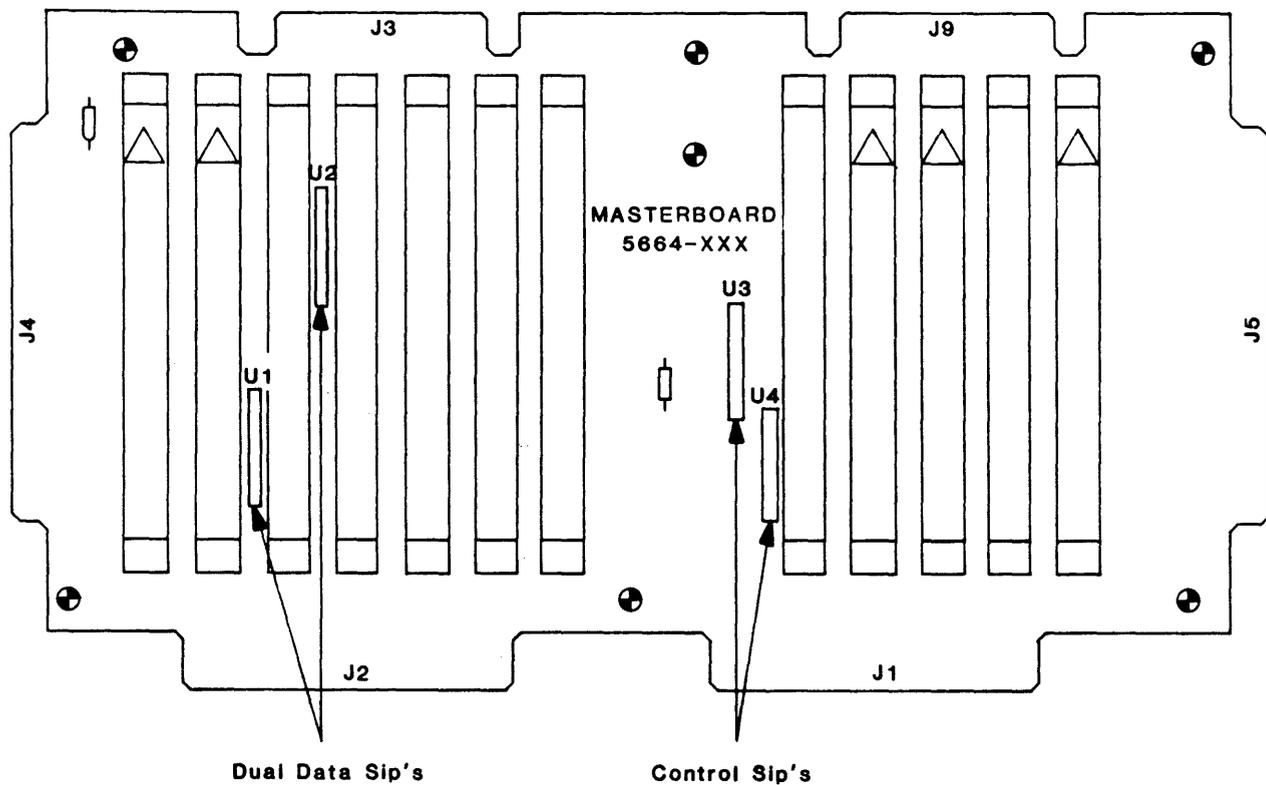

Figure 2-22. 9100/9300 Drive Master Board, Terminator Single In-line Packages (SIP's)
As applicable, remove the 3841 Control and 3860 Data Terminator Boards (Fig 2-18 thru 2-21) or Single In-line Packs (SIP's) on the Master Board (Figure 2-22) **from all but the last Drive** (the furthest Drive from the Formatter) as described below:
2. Drives with SIP Terminators have two in the Control Section of the Master Board, and two in the Data Section. The Master Board is located in the card cage which can be reached from the side of models 9100 and 9300 (Figure 2-22). To remove the four SIP's (U1, U2, U3, and U4) on later version Drives: pull the white release levers above the boards and remove some of the PC Boards from the Master Board near the SIP's to make space for your hand or an IC remover. Remove the four SIP's from their IC sockets on the Master Board, and return the PC Boards to their original locations on the Master Board.